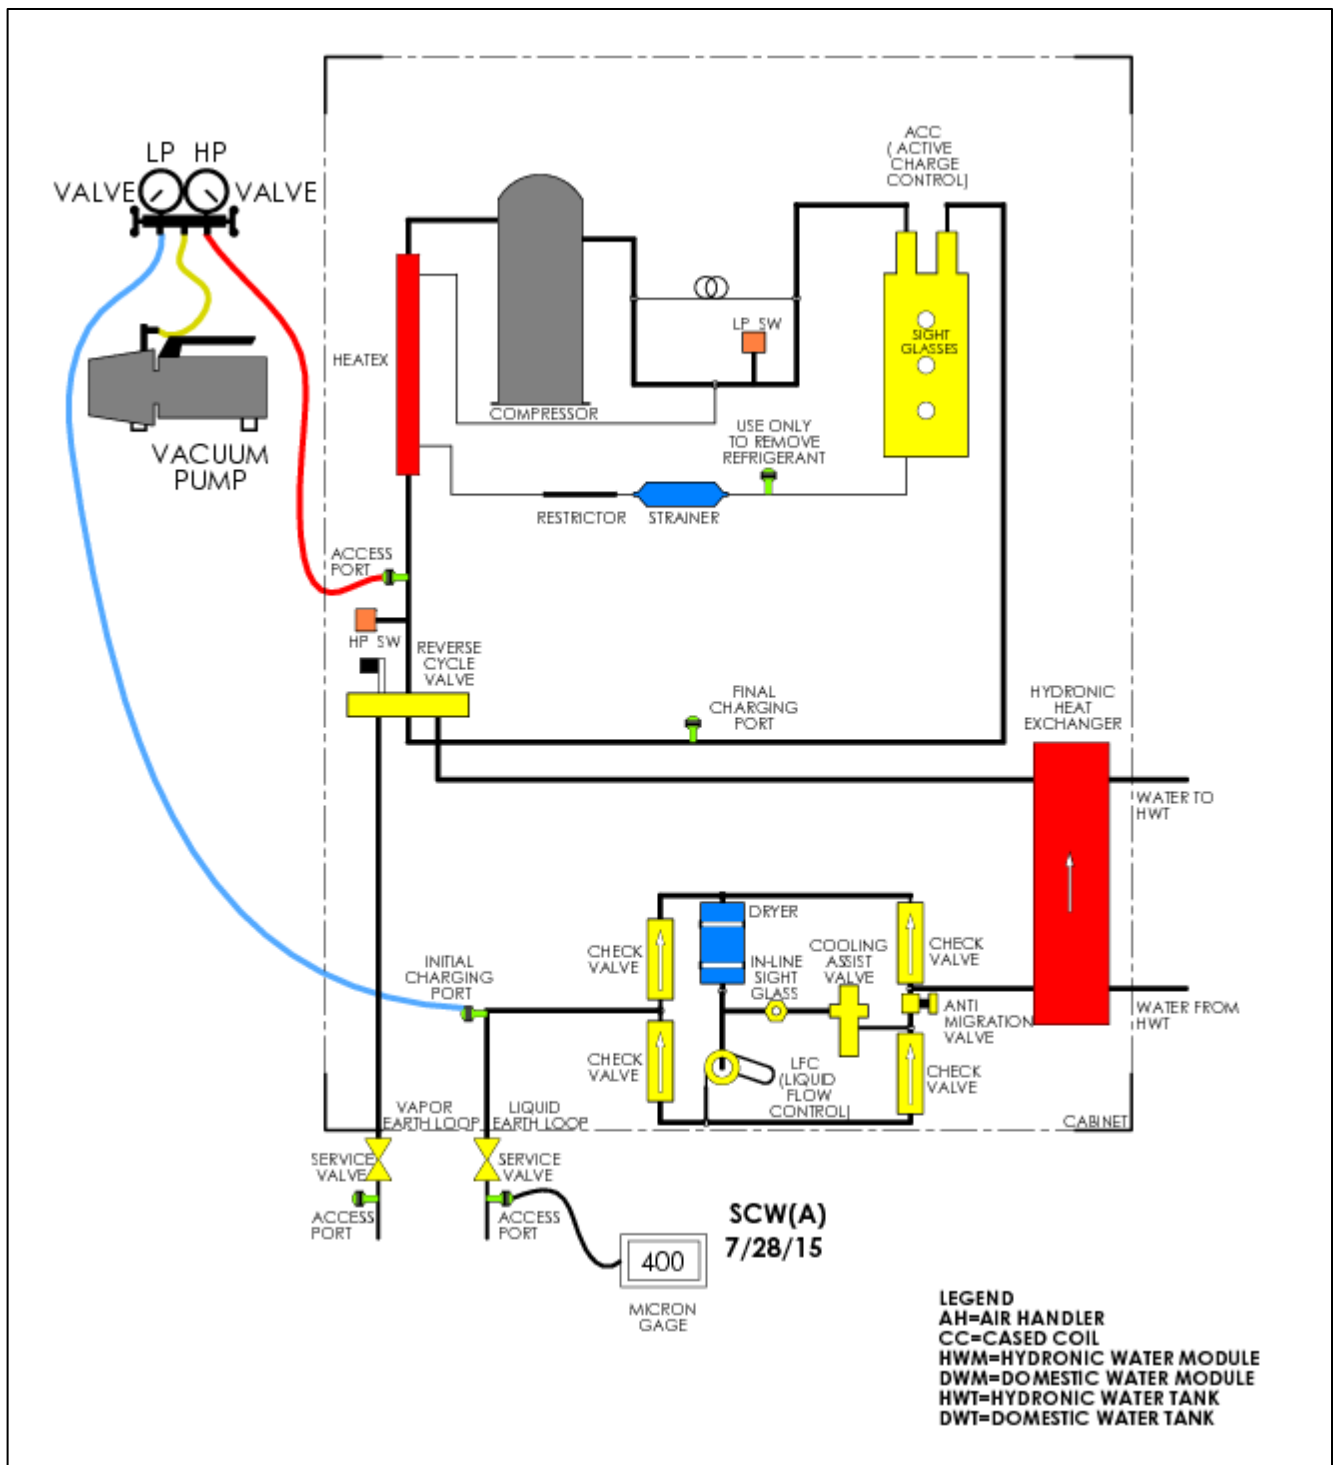

Figure 24. Evacuation of SCW(A) System
Refer to Figure 24 and the following procedure:
2. After venting the pressurized system, a good quality gage manifold and a non-permeable hose set as shown in Figure 24. If possible, use two Schrader core removal tools. Install one on the discharge line access port and the other on the initial charging port. Removal of the Schrader cores will reduce the time to achieve the desired vacuum.
3. Attached a good quality digital vacuum gage with an isolation valve to the liquid line service valve access port as shown in Figure 24.
5. Fully open the LP and HP valves and both service valves. Reference Figure 24.